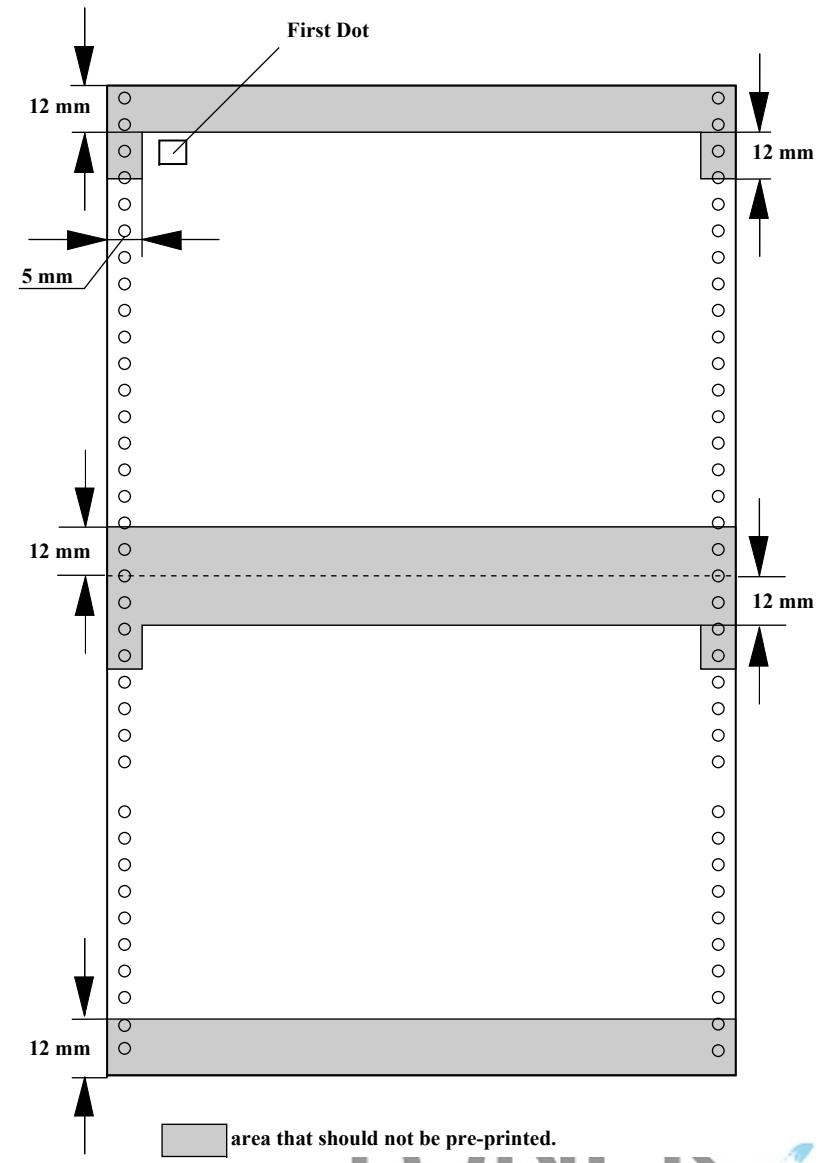

Figure 1-9. Pre-printed paper (continuous Forms)
2. When using pre-printed paper, the reflectivity of the pre-printed color should be less than 60% (e.g., black). The shaded area should not be pre-printed as shown in Figure 1-9. Pre-printed paper \(continuous Forms\) \(p.24\), and that area should not have punch holes.
3. When using pre-printed paper, the reflectivity of the pre-printed color should be less than 60% (e.g., black). The shaded area should not be pre-printed as shown in Figure 1-9 on page 24, and that area should not have punch holes.